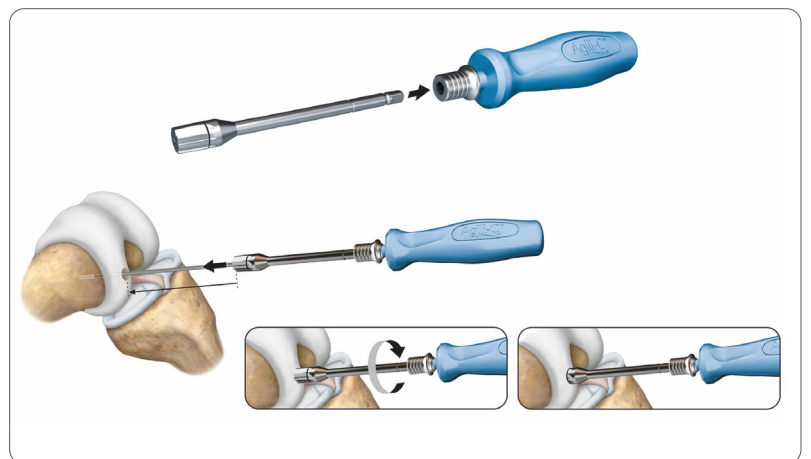

Figure 9
C. Manually rotate clockwise until the indicator line is no longer visible from all sides (**Figure 9**).